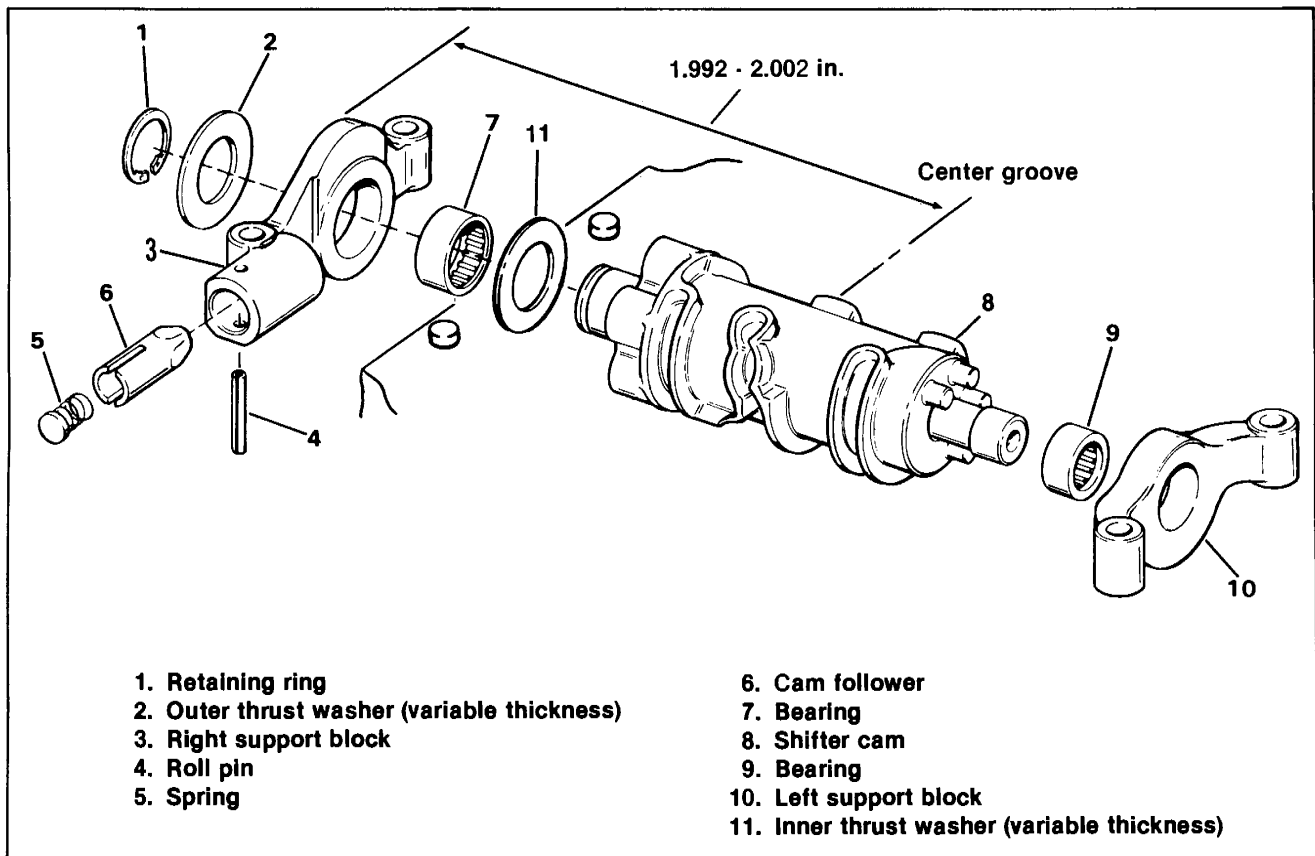
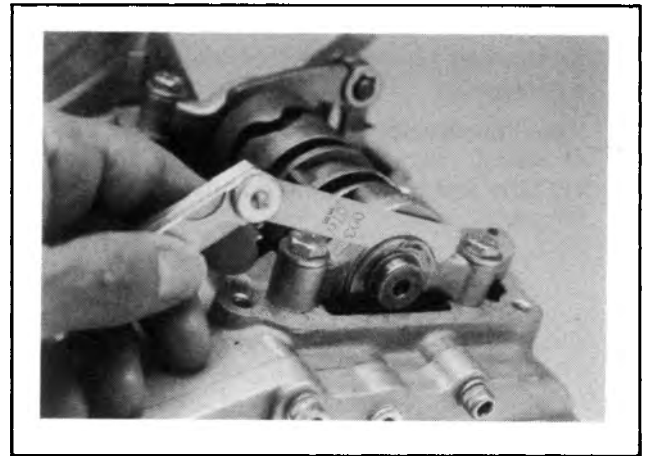

Figure 7-3. Shifter Cam Assembly
Figure 7-6. Checking End Play
5. See Figure 7-3. The left support block (10) is a slip fit on the cam shifter and will slide off.
6. Remove retaining ring (1), outer thrust washer (2) and right support block (3). Mark thrust washers (2 and 11) so they are installed in their original position. Discard retaining ring.
1. See Figure 7-3. Clean all parts except bearings (7 and 9) with solvent.
4. Inspect shifter cam (8) for cracks or wear and replace if necessary.
1. See Figure 7-3. Install inner thrust washer (11) and right support block (3) on large end of shifter cam (8).
4. See Figure 7-6. Check end play of shifter cam. See Figure 7-3. If end play is not 0.001-0.004 in., remove outer thrust (2) and replace it with a thinner or thicker one. With proper end play, either thrust washer (2 or 11) should turn freely.
5. See Figure 7-3. Slip left support block (10) on small end of shifter cam.